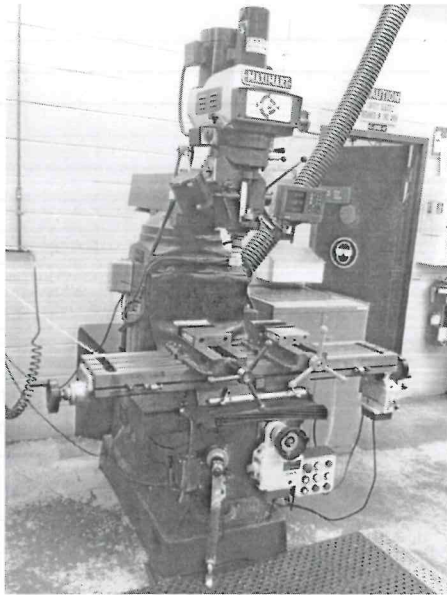

Figure 3-1
- (a) Disconnection and removal of two existing milling machines (identified in Figures 3-1 and 3-2 and in Tables 3-1 and 3-2);